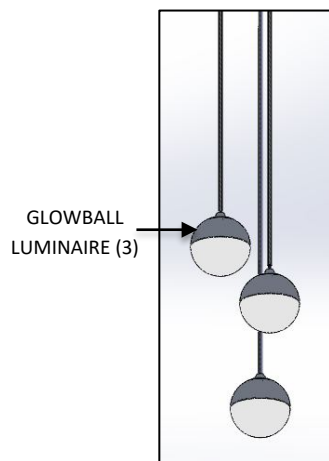

FIG.2 GLOWBALL LUMINAIRE
1. GLOWBALL LUMINAIRE (3) with CORD attached. (Pre-assembled as shown in FIG. 2)